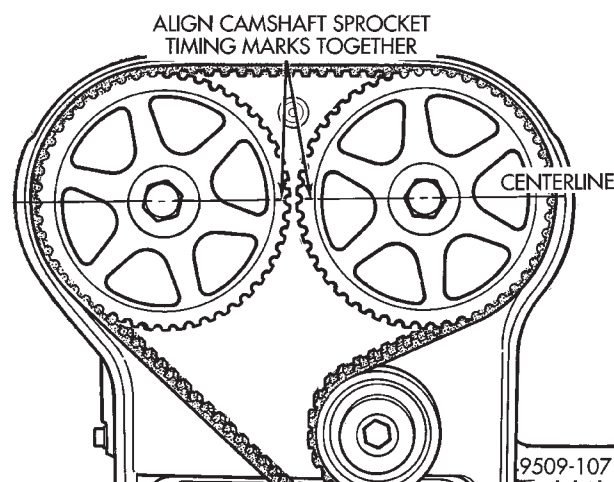

Fig. 45 Camshaft Timing Marks
(5) Set camshafts timing marks together by aligning notches on sprockets (Fig. 45).